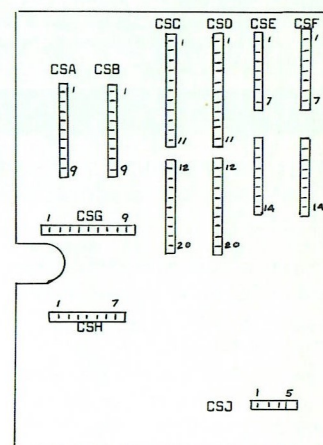

Figure 2. Diagram showing layout of ceramic strip terminals referred to in Delayed Pulse Modification.
- () 5. Solder the other end of the white-black wire to CSH-1 (locate in Figure 2).
- () 6. Solder the other end of the white wire to CSD-19 (locate in Figure 2). This completes the modification.